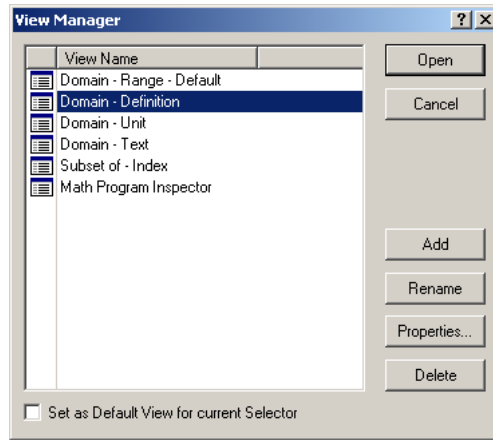

Figure 3.17: View Manager window
- ▶ select the 'Domain - Definition' entry from the **View Manager** window (see Figure 3.17), and